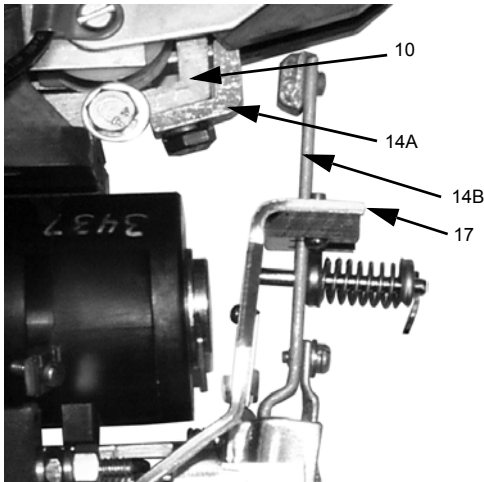

Figure 2: Contact Arm Assembly
Refer to Figure 2 when aligning the contact tips.
- The movable contact tip (14B) is securely fastened to the contact arm assembly (17) with the contact arm spring, cup washers, and cotter pin.
- The movable contact tip is positioned in the slot in the contact arm assembly (Figure 2).
- The stationary contact tip (14A) is positioned against the stationary contact support (10).